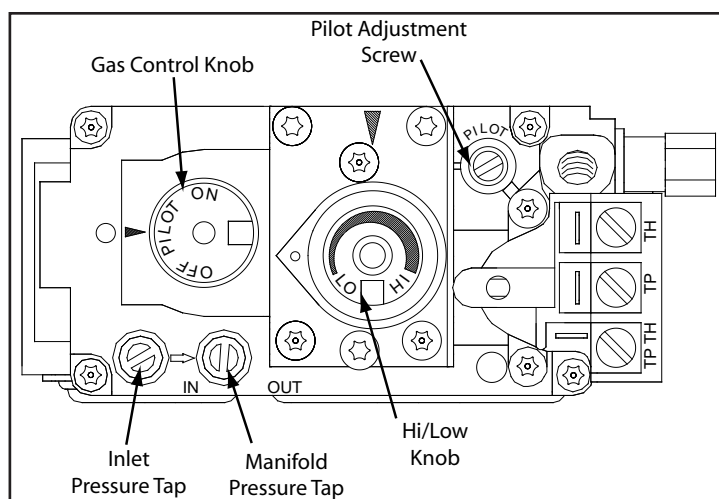

Figure 27: Valve Details.
The pressure taps are located on the front side of the valve (see Figure 27).
1. The adjustment screw can be reached through the front of the unit using a 10 inch flat head screw driver (see Figure 27 for location on valve).